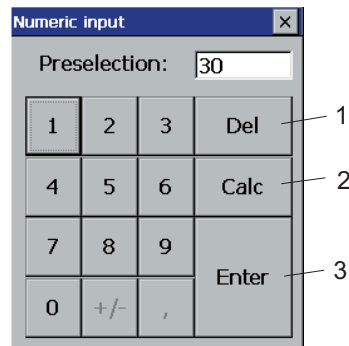

Fig. 17 Input keyboard
- You can correct incorrect entries with the *Del* key (Fig. 17/1).
You can activate additional calculator functions by means of the *Calc* key (Fig. 17/2).
3. Touch the *Enter* key (Fig. 17/3) when the entry has been completed.